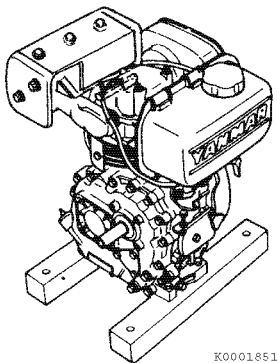

Figure 6-106
17. If equipped, install the fuel tank (**Figure 6-106**).